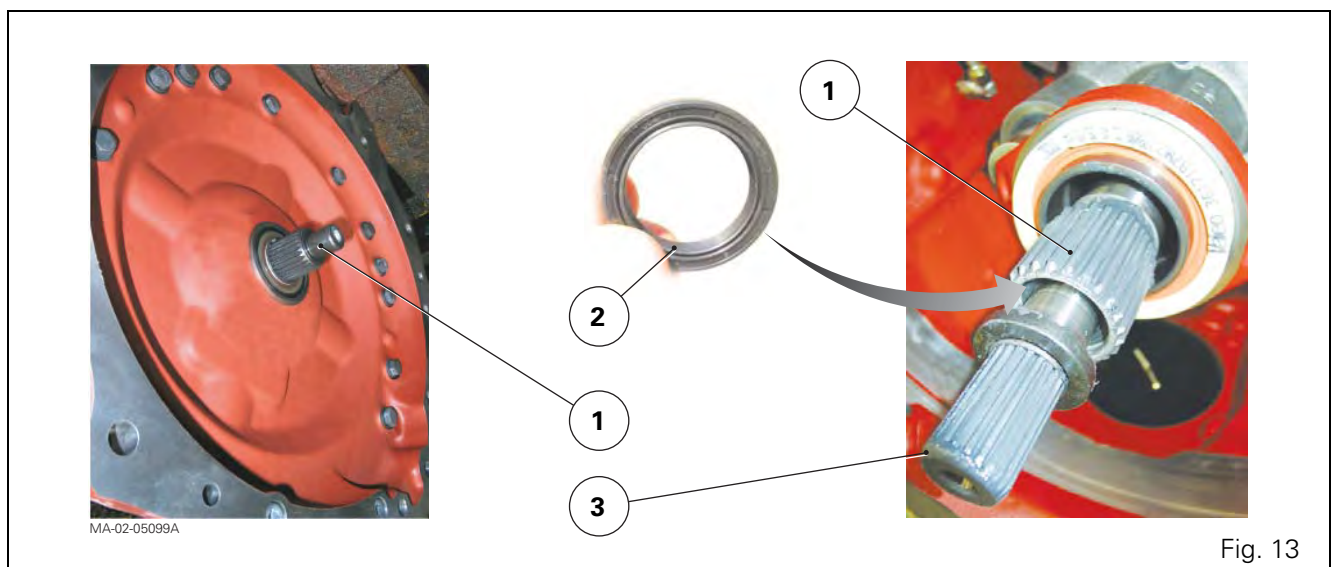

Fig. 13
- **Tractors with Power Shuttle (Fig. 13)**
- **Tractors with dry clutch (Fig. 13)**